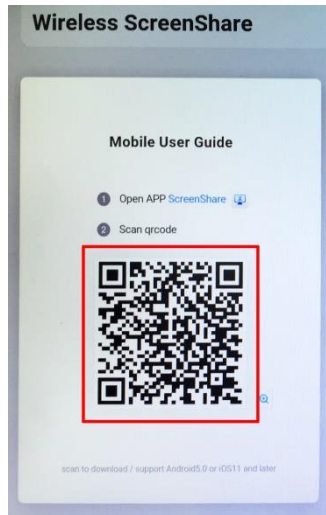

Figure 4.1
① Connect the all-in-one machine Wi-Fi hotspot; (name: Android AP password: 3a8538d9f287)
② Scan the QR code below to download the mobile APP screen assistant, refer to Figure 4.1;